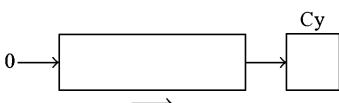

Fig. 27.10
**SRL instruction:** SRL stands for ‘shift right logical’. It shifts all the bits to the right by one position. The LS bit that comes out is moved to Cy flag. A 0 value is moved in the vacancy created at the MS bit position. The effect of the execution of SRL instruction is indicated in Fig. 27.10.